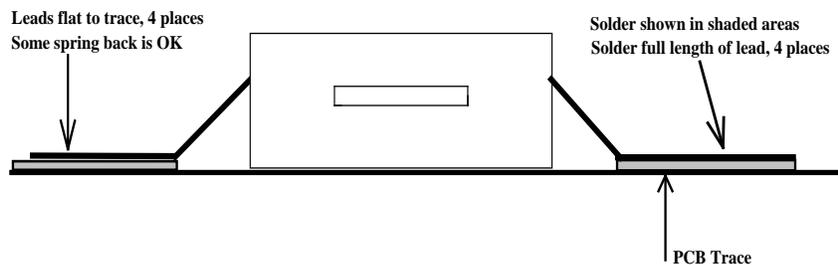

Figure 2. Typical side view of four leaded surface mounted device, lead bending close to body
- The DOTS on the MMICs (IC1- IC6 and IC8) determine their orientation and must be observed and positioned correctly prior to soldering. The GaAsFET (Q4) angle cut lead or dot is the Gate side which corresponds to the "G" on the assembly diagram (See Figure 1). Leads on all active surface mounted components should be somewhat flat against the mounting surface, if they are not, a small tool such as a small bladed screw driver can be used to flatten them. (See Figure 2).
- If the alignment is acceptable, solder the remaining leads. You need enough solder to cover the lead and mounting surface for the entire lead length. Additional amounts results in a smaller solder roll! (See Figure 2 shaded areas)